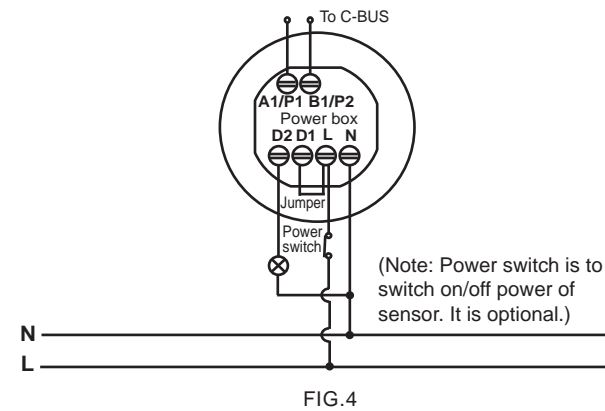
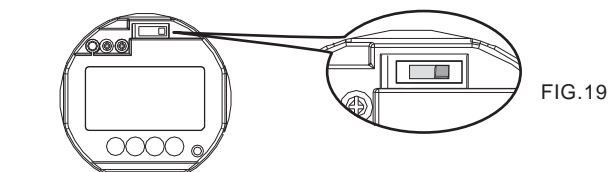
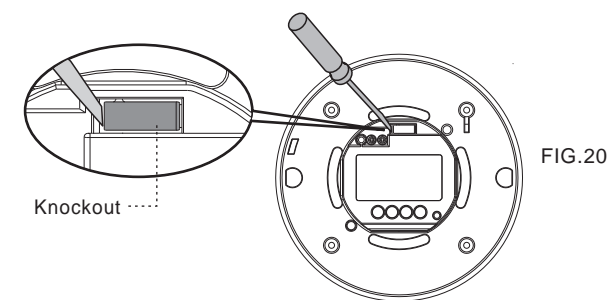
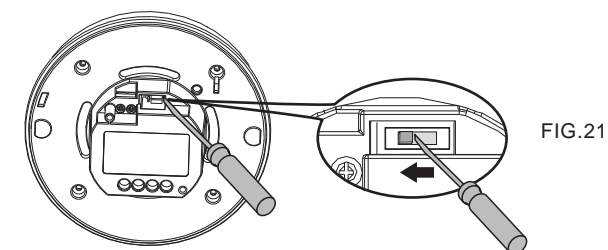

FIG.4
FIG.19
FIG.20
FIG.21
3.2.1.2 The operation of C-BUS signal controlling (See FIG.4, should set the slide switch refer to section 4.2.1.2 and FIG.20 & FIG.21 firstly).
4.2.1.2 Before ex-factory, the slide switch is set as below (See FIG.19, push button mode). User can change to the C-BUS mode with the following steps: 1st: open the knockout with "-" type screwdriver (See FIG.20). 2nd: move the slide switch to the position as shown in FIG.21 with the "-" type screwdriver.
4.2.1.3 The C-BUS signal is for controlling the C-BUS system's load on (See FIG.21).